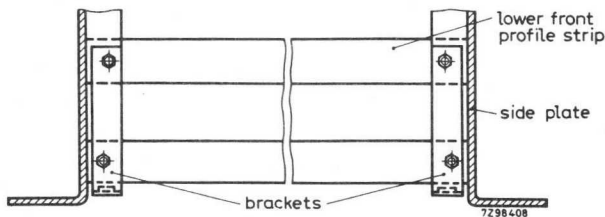

Fig.11
5. Attach the two brackets for mounting the locking strip to the side plates by means of 4 nuts M3 (on screws M3x8). The short sides of the brackets must point downwards. Do not tighten the nuts (Fig.11).